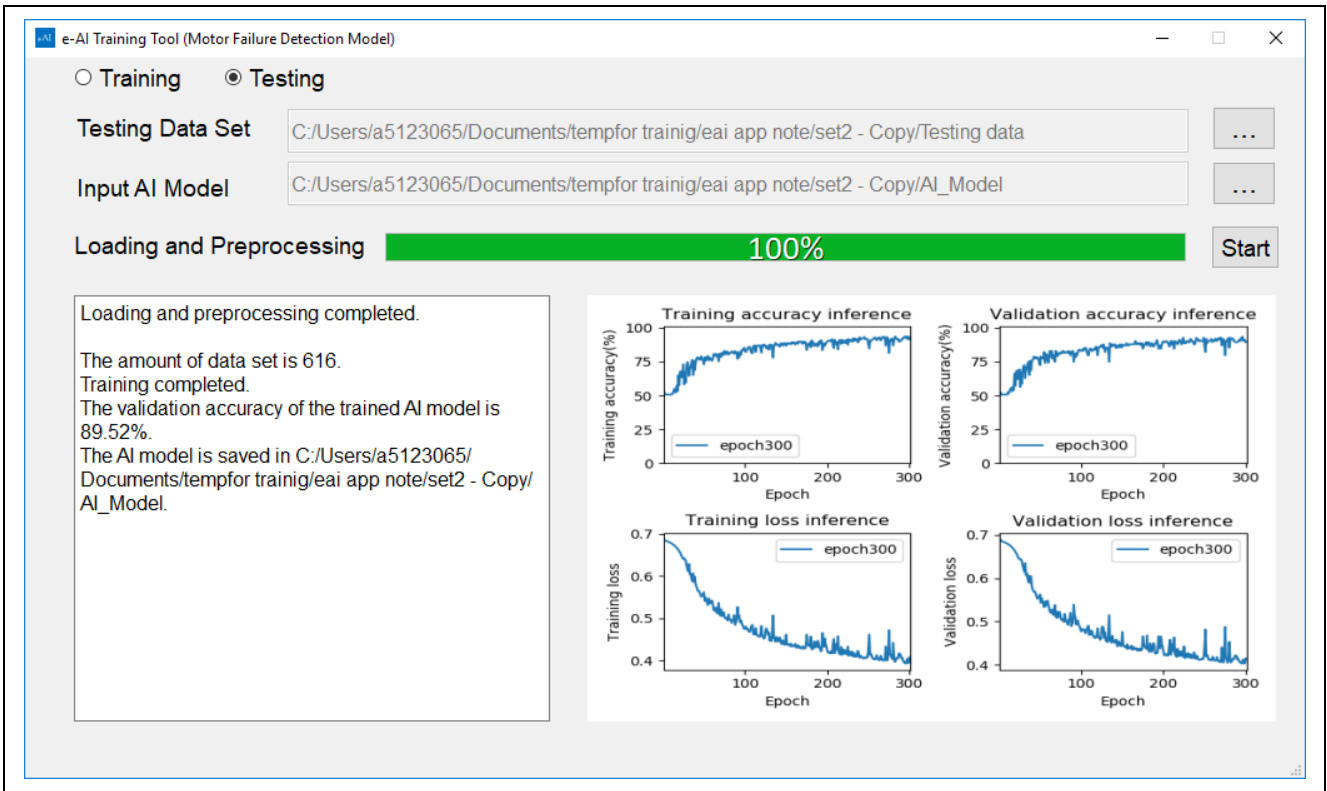

Figure 19. End of Training by the Training Tool
- When training finishes, “Training completed” is displayed as shown on the left in Figure 19. If a problem is detected during preprocessing, operations stop and “Training failed” is displayed.